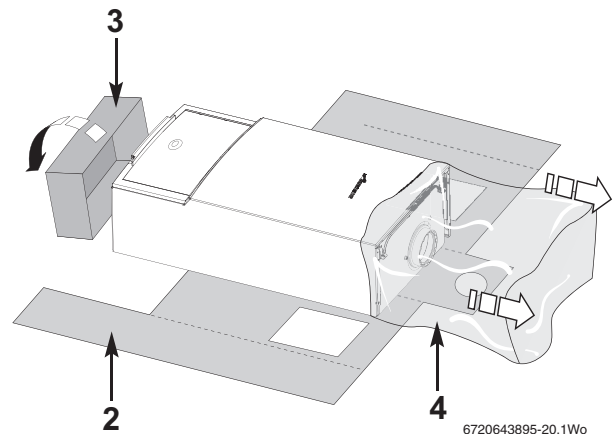
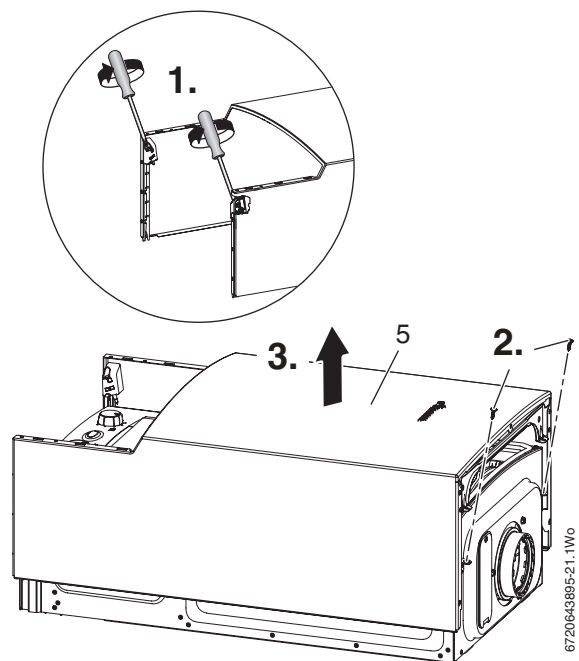

Fig. 25 Remove packaging
Fig. 26 Outer case screw removal
- ▶ Remove outer carton (1) and place safely away from the working area.
- ▶ With the outer packaging removed and the inner sleeve (2) still in place gently lay the boiler on its back.
- ▶ The boiler will lie at an angle to the floor to allow the boiler outer casing (5) to be removed.
- ▶ The inner sleeve (2) opens as shown in figure 25.
- ▶ Remove the protective wrapping (4).
2. Undo the two screws at the top (see fig. 26).
3. Remove the outer case (5).
- ▶ Remove any packaging within the boiler and the packaging base (3).